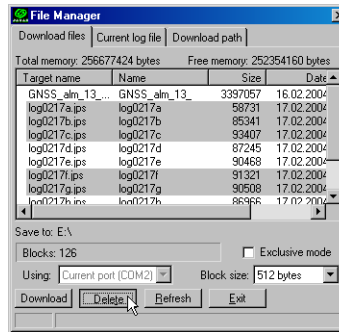

Figure 4-7. Delete Files
4. On the **Download files** tab, select the file(s) you want to delete (Figure 4-7 on page 4-11).
5. Click **Delete** (Figure 4-7).